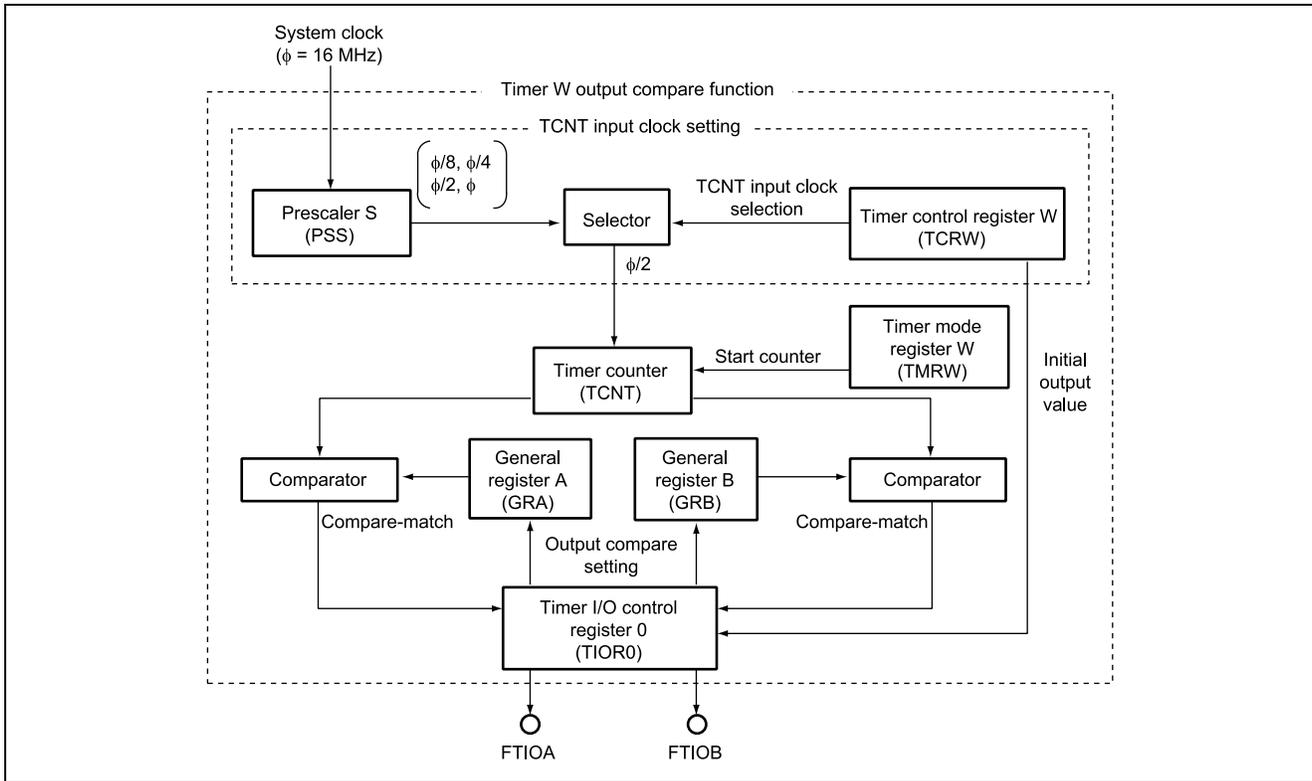

Figure 2.1 Block Diagram of Timer W Compare-Match 0/1 Output
1. In this sample task, timer W outputs 0 or 1 from its output pins on a compare-match of the timer counter (TCNT) of timer W. Figure 2.1 is a block diagram of timer W. The elements of the block diagram are described below.